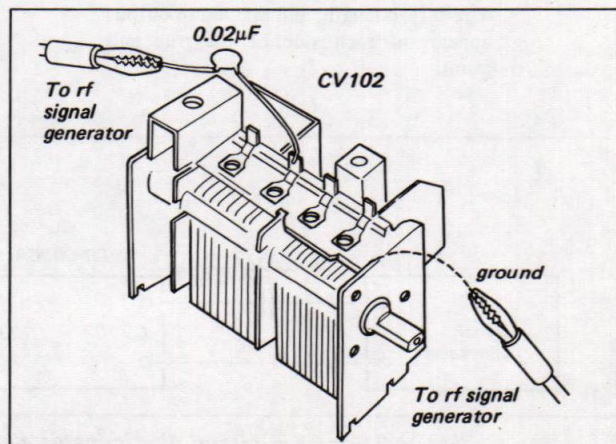

Fig. 3-4. 10.7MHz signal injection
2. Connect the output cable of the generator across CV102 on the fm (a-m) front-end/i-f amp/MPX board through a 0.02µF coupling capacitor as shown in Fig. 3-4.